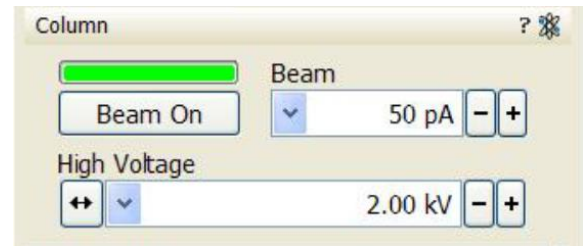

Figure 5
5. Check both Ebeam and Ibeam quadrants, both Ebeam and Ibeam should be off: **Beam On** button in grey indicates that beam is off; **Beam On** button in yellow indicates that beam is on (Figure 5).